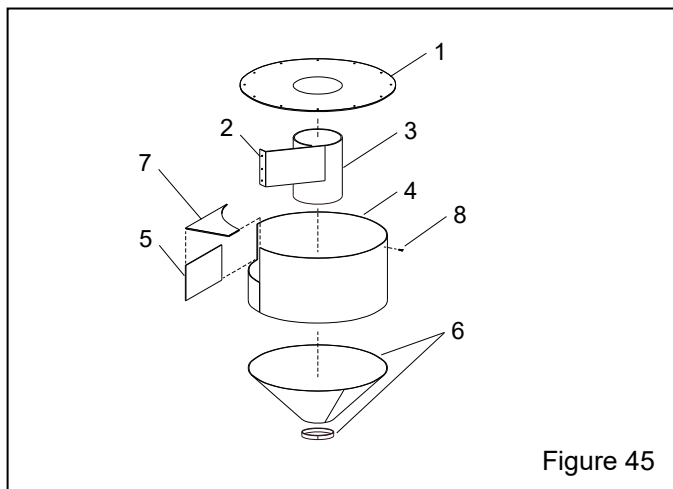

Figure 45
**9.13 Reclaimer Liners – Figure 45**